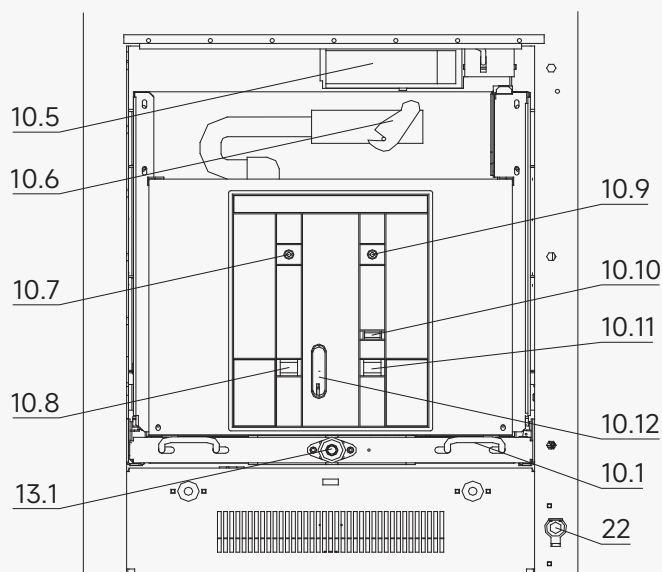

Figure 6-1 VCB Manual mechanism
6.2 Switchgear operation (Figure 6-1)
6.2.2 VCB (Figure 6-1)
6.2.3 Earth switch (Figure 6-1)
6.2.5 Electric/machine indication/supervisory (Figure 6-1)